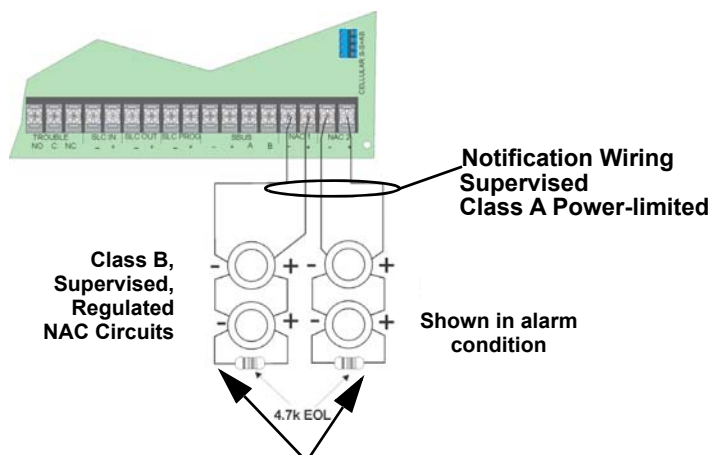

Figure 4.23 Class B Notification Appliance Circuit Wiring
1. Wire Class B Notification appliances as shown in Figure 4.23.